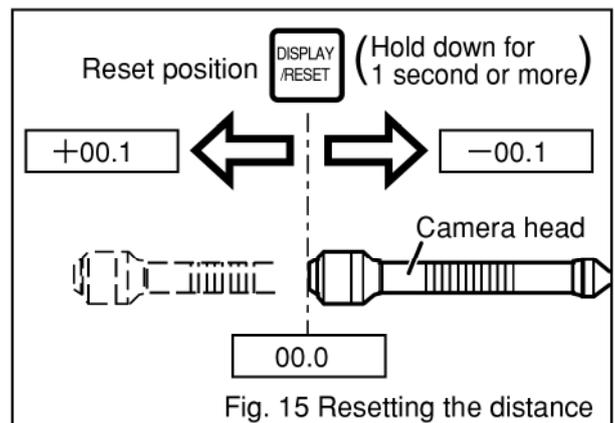

Fig. 15 Resetting the distance
- **Resetting the distance display** (Fig. 15)